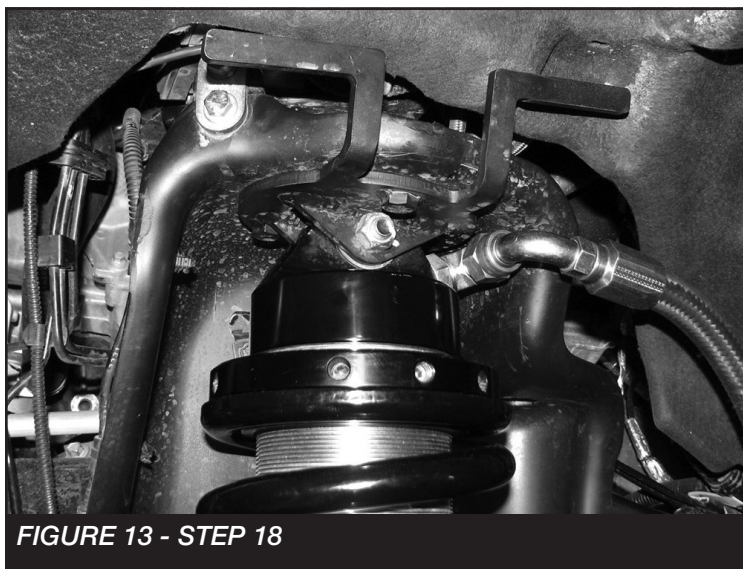

FIGURE 13 - STEP 18
18. Install the driver side coilover mount using the supplied 7/16" nuts and washers for the upper mount and the 5/8" hardware with two FT83475 (Misalignments) at the lower mount. Torque 7/16" to 83 ft-lbs and 5/8" 254 ft-lbs. SEE FIGURE 13